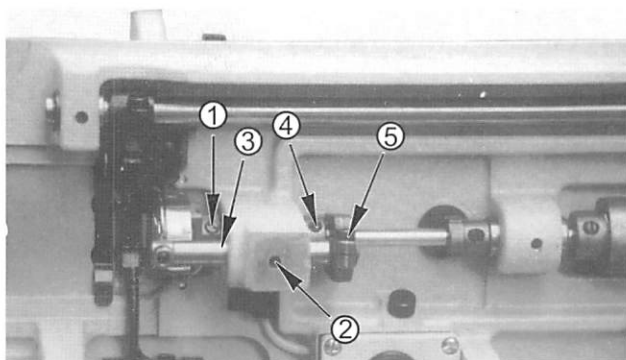
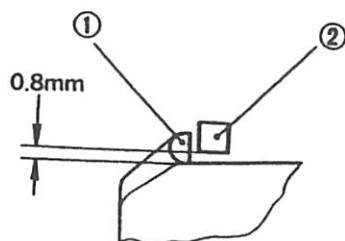

Fig. 20
Fig. 21
2. To adjust the clearance between the hook point and the needle hollow, loosen the two screws (①, Fig. 20) and move the hook to the right or to the left as may require. Please note one of the two screws is placed on the V ditch of hook shaft. Therefore, keep the screw on V ditch during adjustment. Re-tighten the screws.
#### I) Clearance between the opener and projection of hook (Fig. 20 and 21):
1. Loosen the screw (②, Fig. 20)
2. Adjust the clearance between projection of hook (①, Fig. 21) and the opener (②, Fig. 21) by means of movement of thread releasing shaft bushing (③, Fig. 20) to the right or to the left as may be required. The standard clearance between the two parts is 0.8mm as shown Fig. 21.
3. Tighten the screw (②, Fig. 20) securely.
Place the one of screws (④, Fig. 20) which is indicated by "S" on V ditch of the hook shaft.
#### III) Adjustment of operation: ( Fig. 20 and 22)
3. This adjustment can be done by loosening the screw (⑤, Fig. 20)